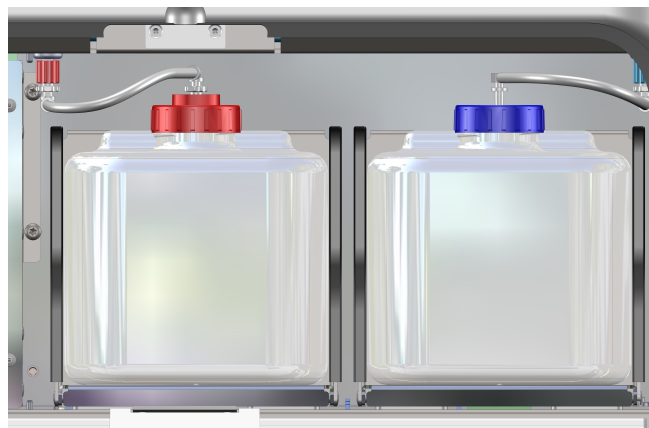

Figure 55
2. Locate the iWASTE PRO container in the left bottle tray (Figure 55).